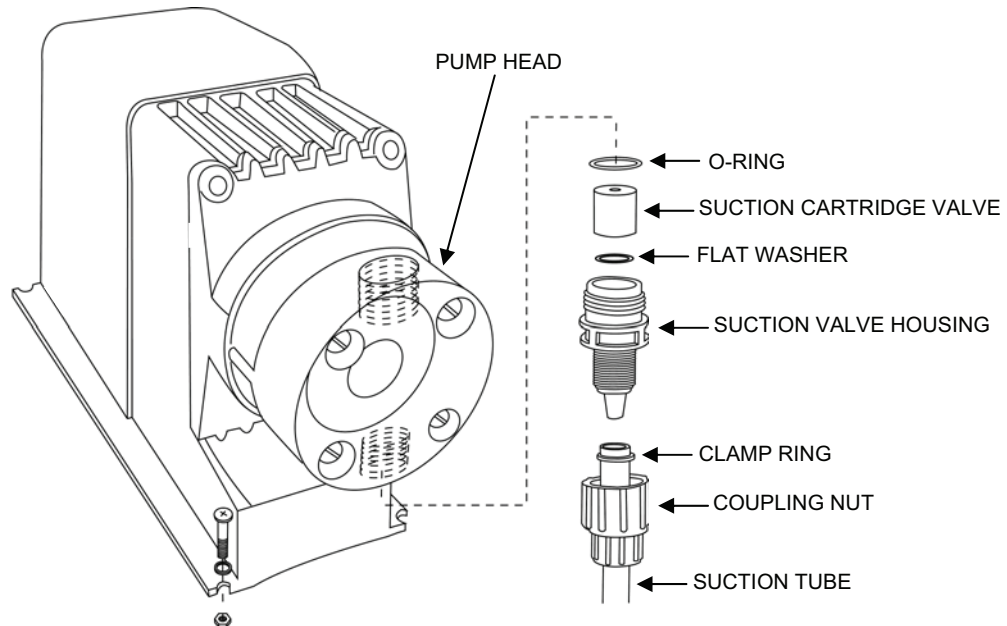

Figure 14. Chemical Injection Pump Suction Valve Assembly Replacement.
3. Remove the chemical injection pump suction valve assembly as follows (see Figure 14):
4. Install the new suction valve assembly as follows (see Figure 14):